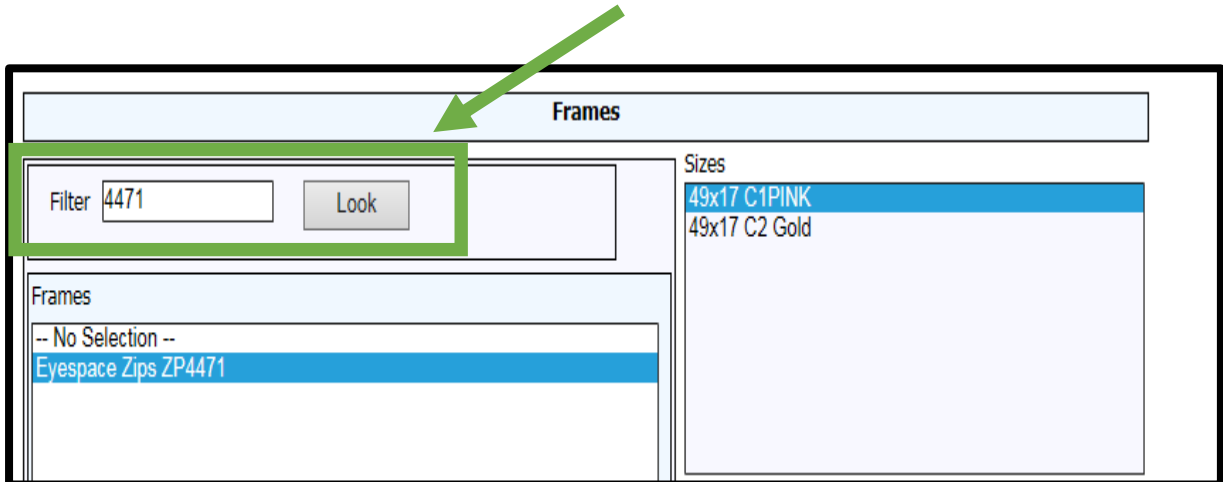

Fig. 7.0
9. Type in your frame choice in the filter box and click on the [LOOK] button (see fig 7.0)